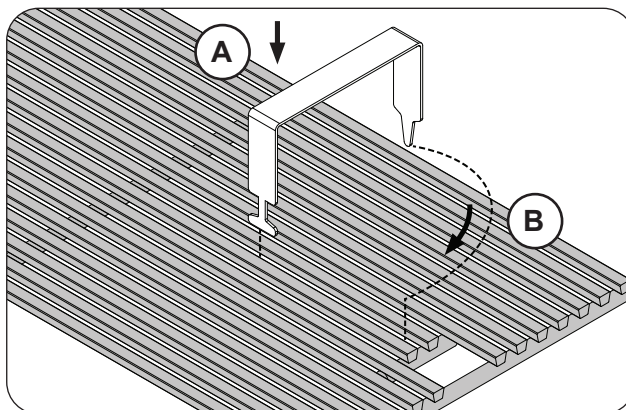

Fig. 26-2 Install cooking grids
1. With the prongs facing downward, insert the notched-end of the lifter between two grid rods, then rotate, as shown in Fig. 26-2, A & B.
2. Insert the rear pointed-end of the lifter between the same two rods (see Fig. 26-2, B) and carefully lift the cooking grid and place onto the front and rear grid rests of the grill (see Fig. 26-3). Repeat for all other cooking grids.